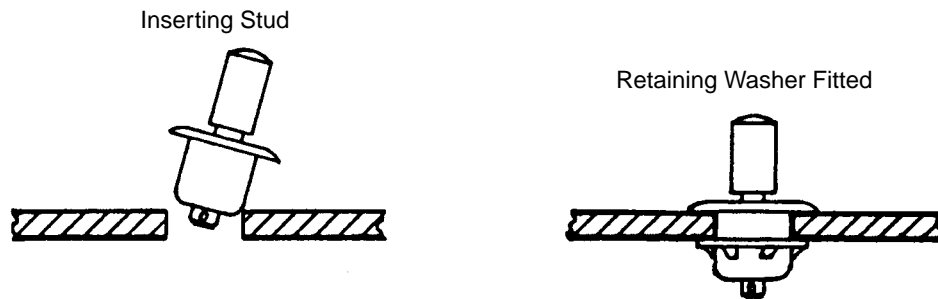

Figure 5 - Installation of 15F Series Studs
- 5.3.2 Install 15F series studs as shown in Figure 5. Ensure that the retaining washer fits squarely against the stud panel and holds the fastener secure.